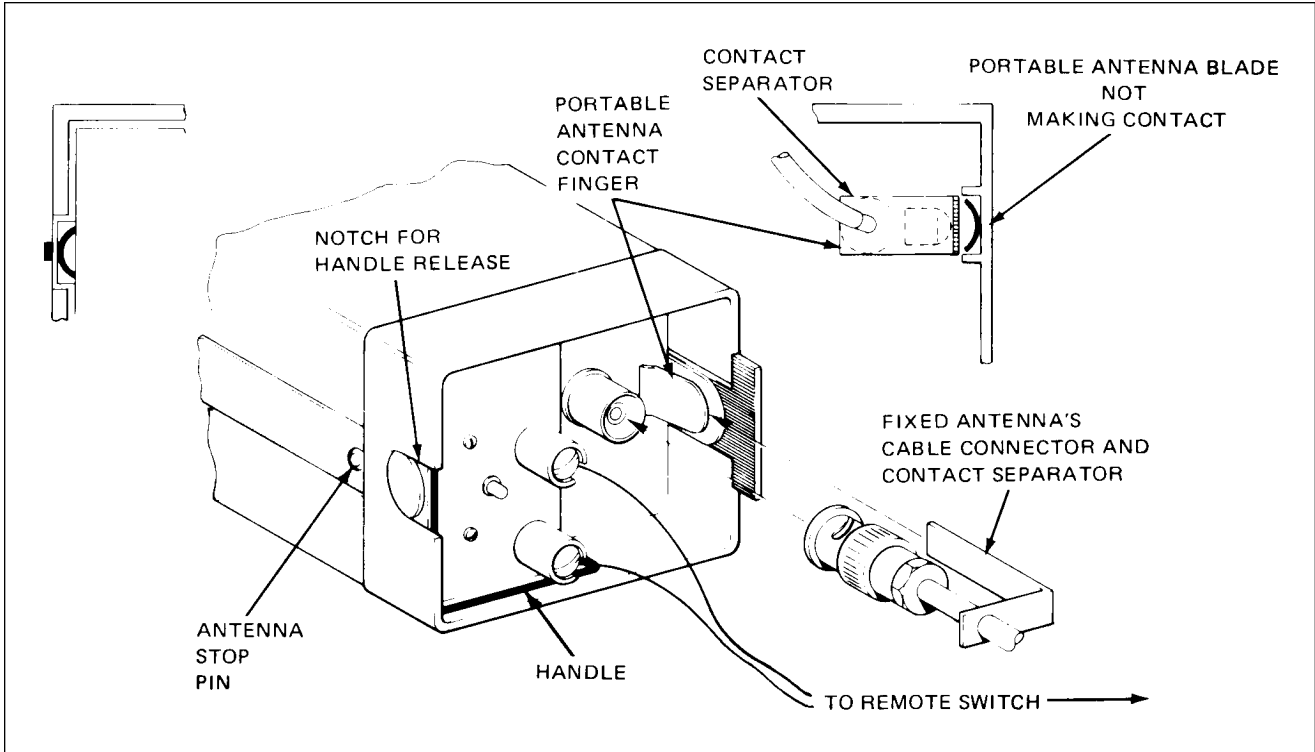

Figure 23-2. ELT Using Fixed Aircraft Antenna (Narco)
12. Connect the antenna coaxial cable to the ELT and ensure that the contact separator is inserted between the antenna contact finger and the portable antenna. (Refer to Figure 23-2.)